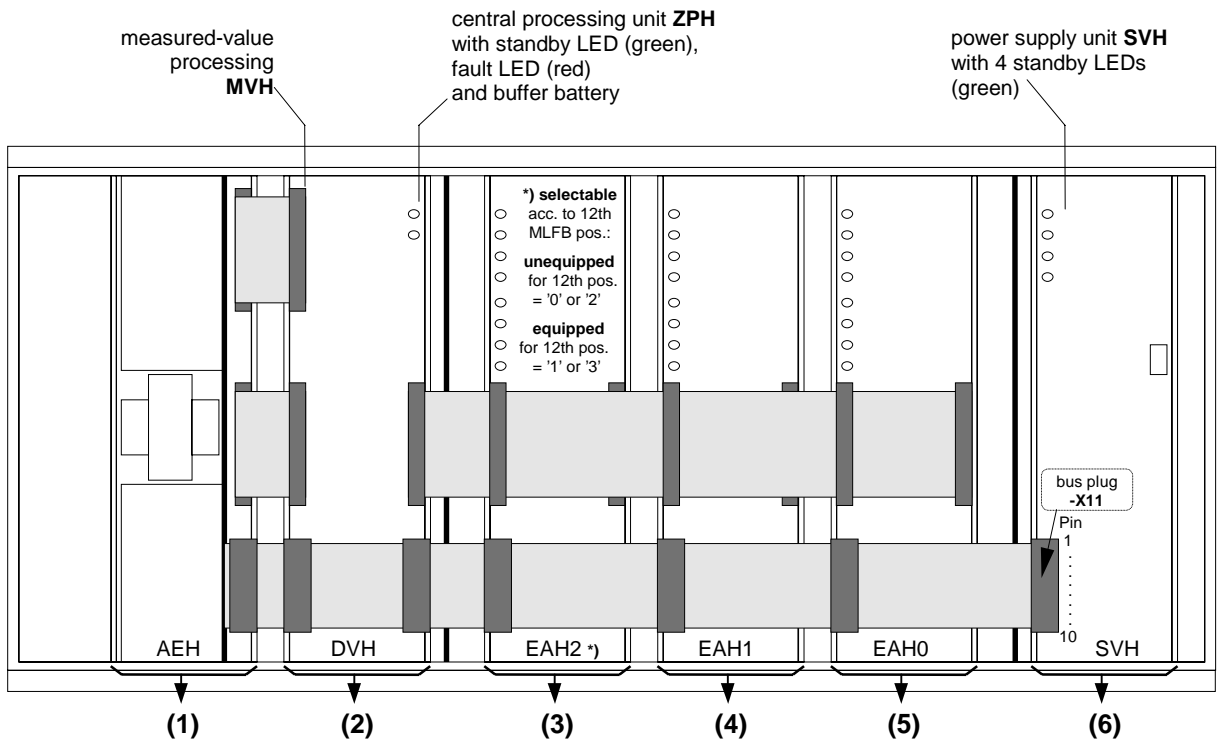

Figure 1: Front view of 7SA513 when front door is open (simplified),
- EAH extension (binary input/output modules; pos. (3), (4), (5) in figure 1): the MLFB code, which pertains to the ordered device, has been software-implemented by the producer and will appear in the display. The 12th MLFB position denotes the EAH extension (e.g. 2 EAH or 3 EAH modules). Up to version V2.12 the actual number of extant EAH modules have not been verified by the software. In versions V2.2*/V3.**, the number of the plugged-in EAH modules are compared to the number, recorded in the implemented MLFB code. In case of deviation, the device will go into the monitor subroutine (malfunction of device).
Corrective measures: Number of EAH modules (i.e. excluding/including module EAH2 in pos. (3) as in figure 1) must correspond to the number shown in the implemented MLFB code. Before carrying out a firmware update, write down the MLFB code (address 0 or 0000). Check and, if necessary, modify the EAH configuration of the device.
21. Insert the DVH module into the housing; ensure that the module is firmly pushed in. Carefully re-connect the ribbon cables, which connect the DVH-module (see fig. 1, pos (2)), with the other modules. Be careful, that no terminal pins suffer injury (bending). Then re-connect the ribbon cables from the front panel; take care for correct polarity:
- 27.2 Remove the bus plug **-X11** from the power supply module **SVH** (see fig. 1).
- 27.3 Connect a digital-voltmeter to pin 2 (positive pole +5V) and pin 5 (negative pole -5V) of the plug connector X11 (SVH-module). Pin-location see fig. 1.
- 27.15 Replace the bus plug **-X11** to the plug connector X11 of the power supply module **SVH** (see fig. 1).